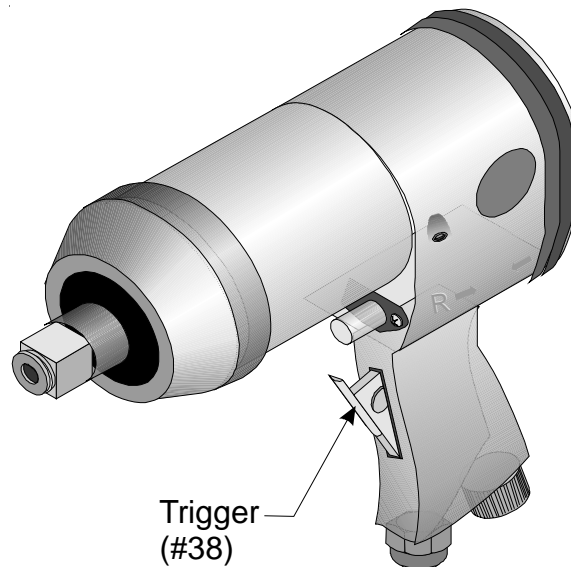

Figure 5 — Pressing Trigger
Step 7: Press the TRIGGER (#38) to test the Impact Wrench. The Impact Wrench should spin freely as shown in Figure 5